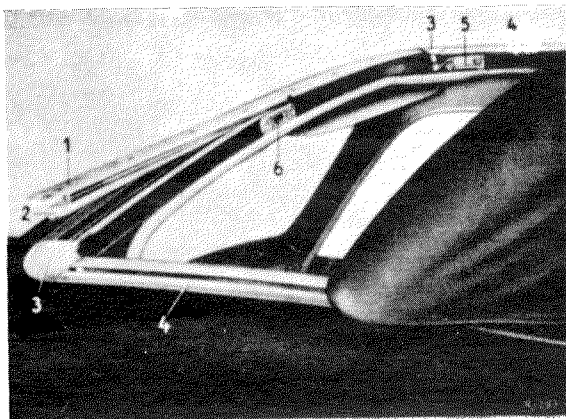

Fig. 78 — 2/1
- a) Guide rail (4), left and right (Fig. 78—2/1).
- b) Cover rail (1), front, with spacer molding (2).
- c) Angle plate (3), left and right.
- d) Curved fitting (5), left and right.
- e) Anchor plate (6) at cowl center top.
2. Unscrew the left and right guide rail (4) and carefully lift it off (the guide rail is sealed by means of Plasticine and adhesive tape) (Fig. 78 — 2/1).
4. Unscrew and remove the front cover rail (1) together with the wooden spacer molding (2) (Fig. 78 — 2/1).
6. Remove the adhesive tape at the wooden spacer molding (2).
7. Unscrew the angle plate (3), the curved fitting (5), and the anchor plate (6) (Fig. 78 — 2/1).